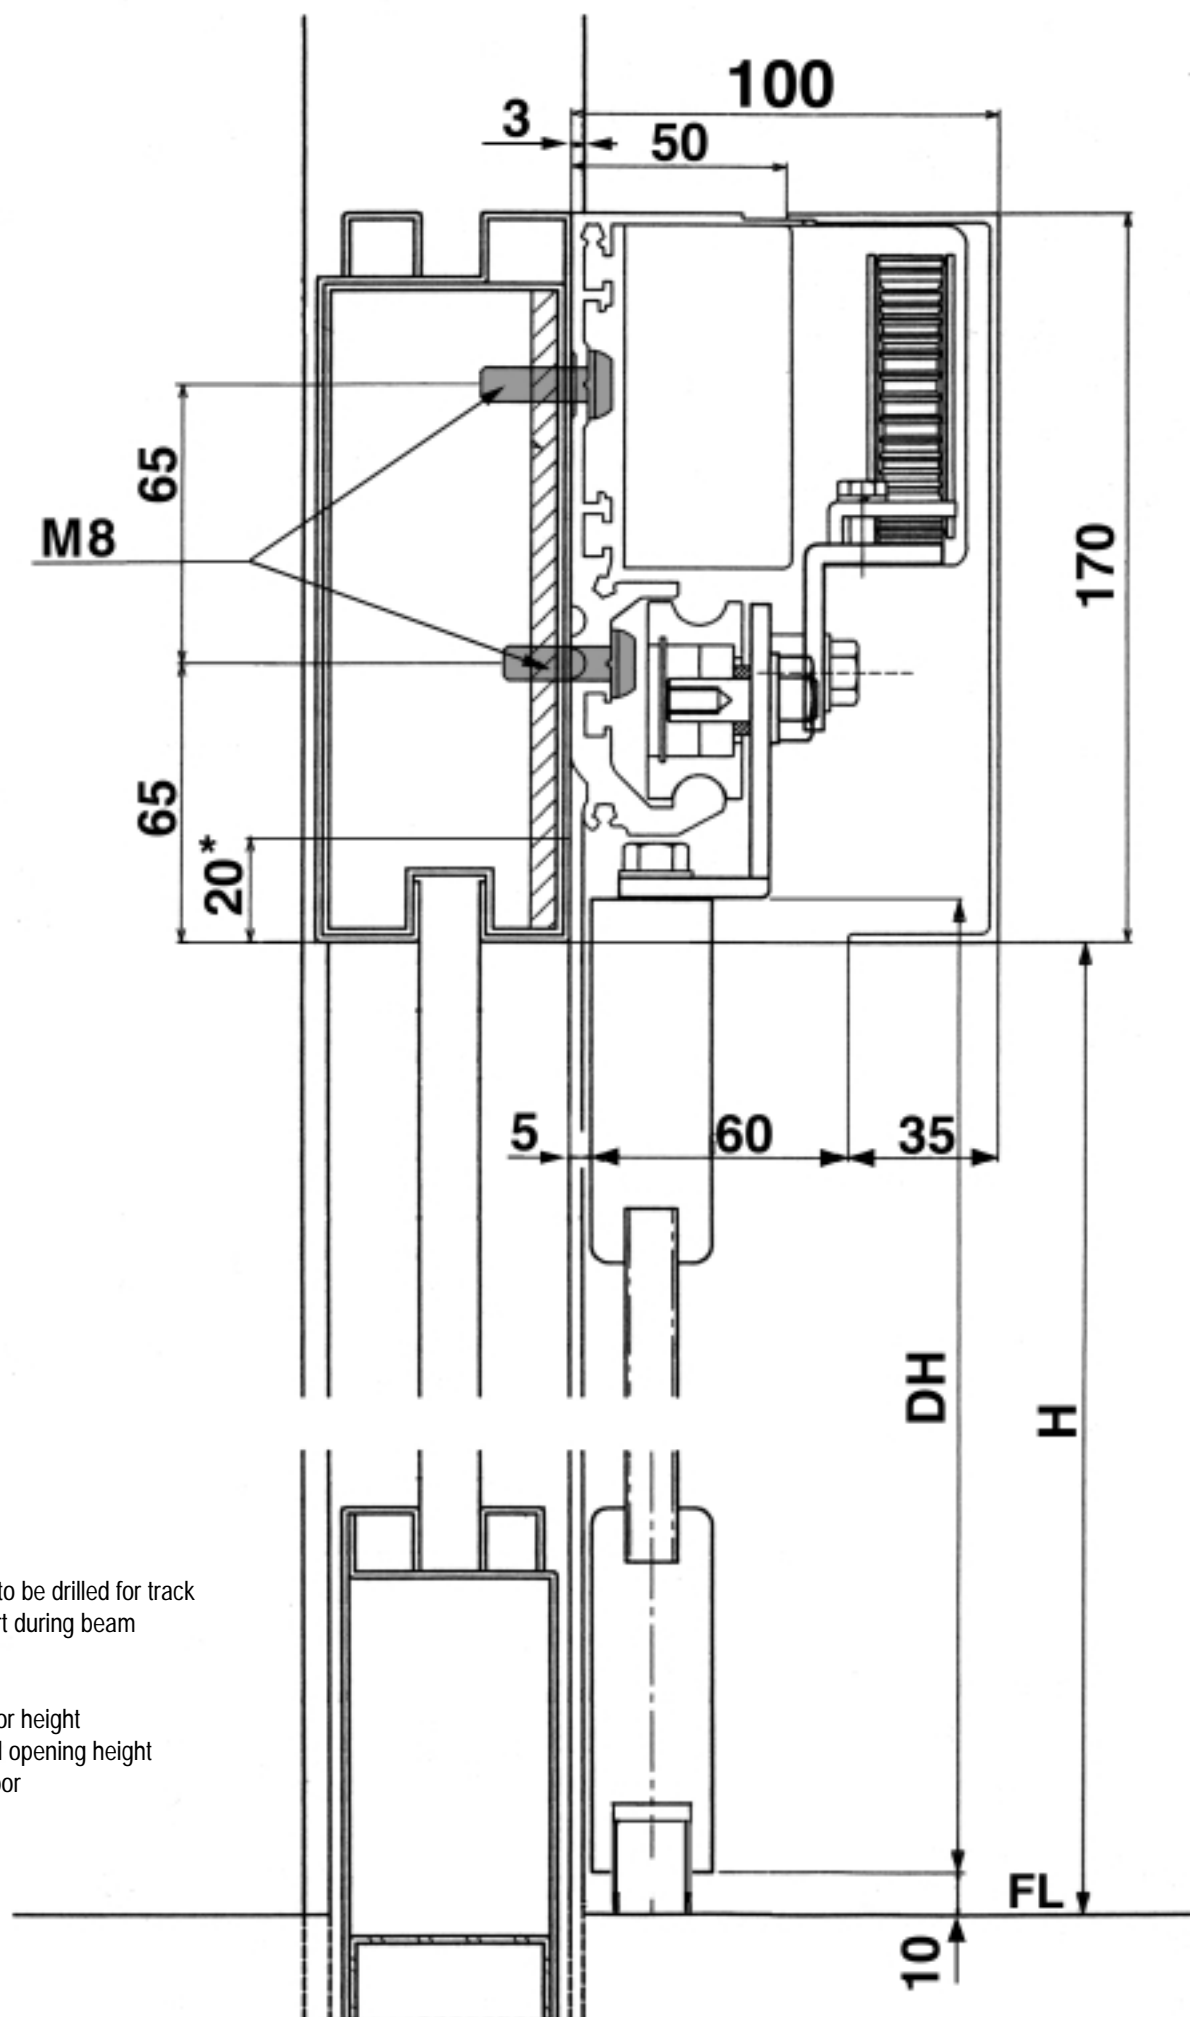
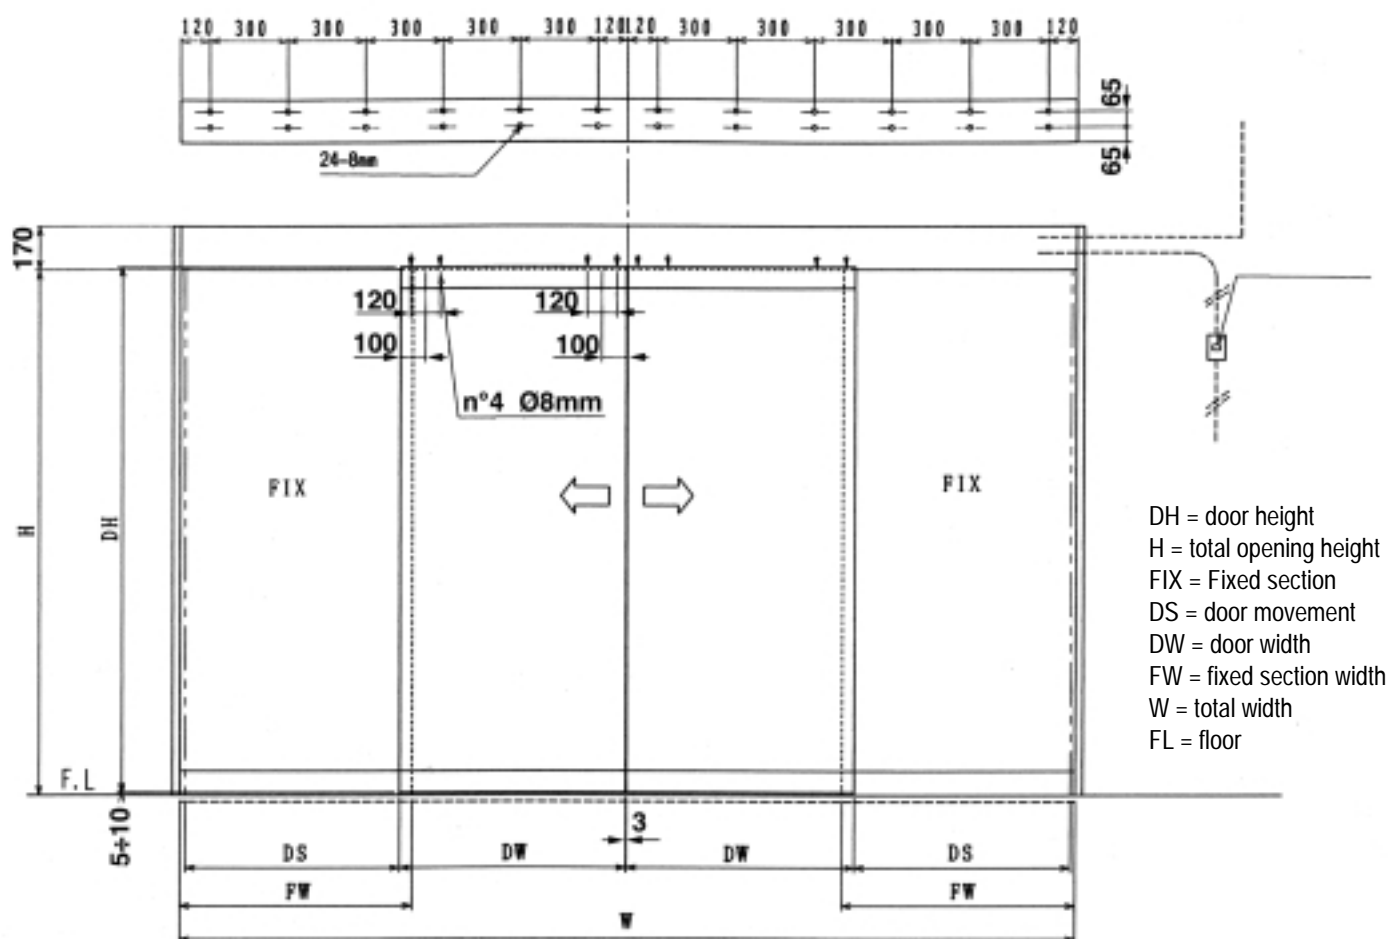

Fig.3
Fig.4
- 4) Drill $\varnothing 7.5$ mm holes (if using 8 mm screws) at the points shown in Fig. 3. Holes must be drilled at least 30 cm from one another, as shown in figure 4. Remove waste taking care to prevent it coming into contact with electrical equipment to be reassembled on the track (the heavier the door, the more screws are needed). Using fixing screws with heads that do not obstruct wheel travel on the track or component positioning.
- 2) Fix the steel plates (optional) above the door to enable fixture to the top attachments (fig. 4).